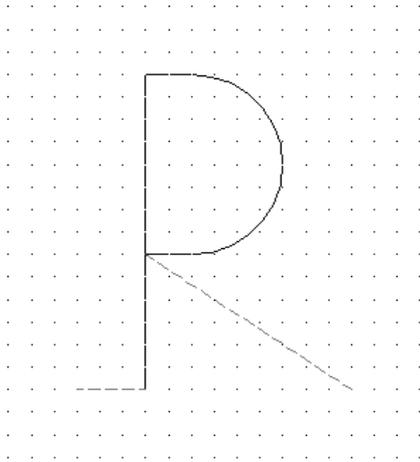

Figure 32-7: An uppercase P.
2. Save the file as `ab32-01.dwg` in your AutoCAD Bible folder. This drawing shows an uppercase P, with dashed lines to indicate space before and after the letter, as shown in Figure 32-7. This is the type of drawing that you might use as a basis for creating a shape definition.